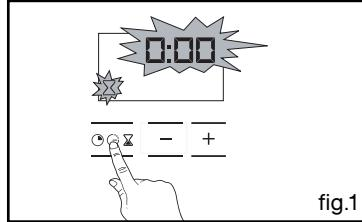

fig.1
- Press the “” button (fig.1) until the timer symbol begins flashing.